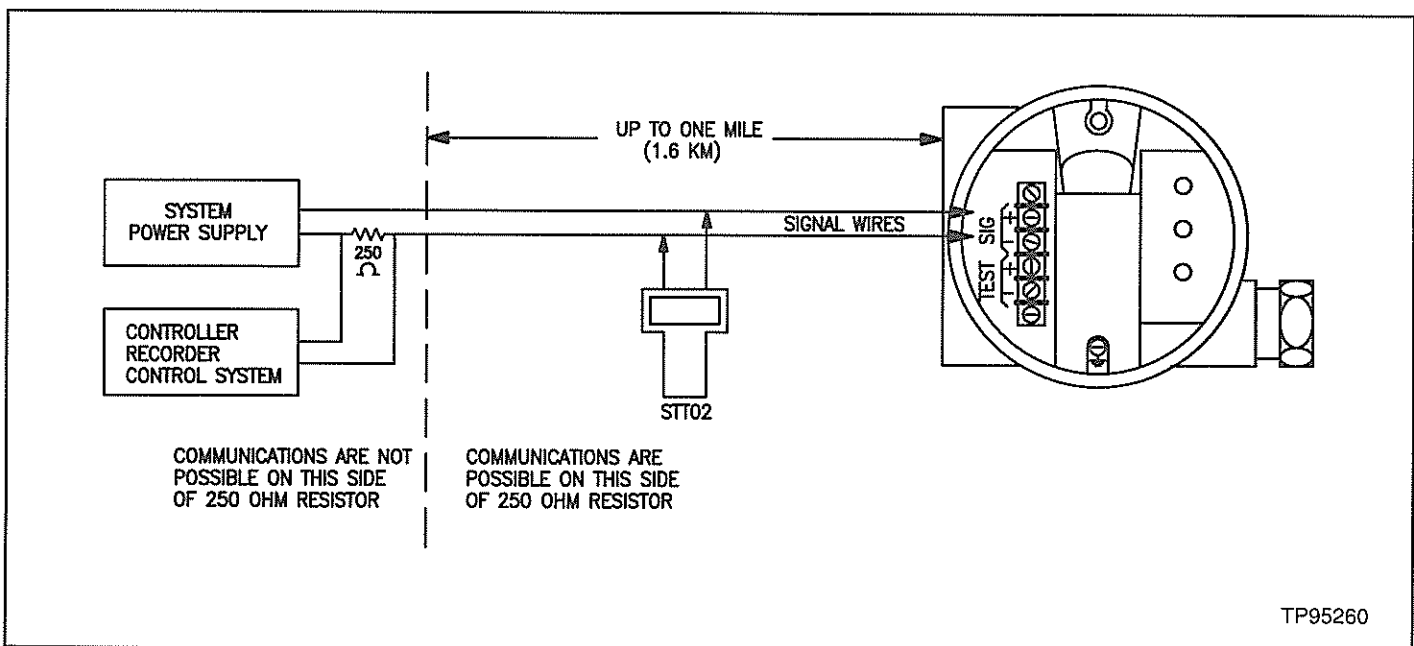

FIGURE 7 – Point-to-Point Wiring
**COMMUNICATION.** Communication between the BCN Transmitter and the remote terminal is accomplished by attaching the STT02 anywhere along the signal wires. No adapters, jacks or plugs are necessary. An ac voltage imposed on the signal wires allows communication between the BCN Transmitter and the STT02 Terminal. Since the communication signal is high frequency ac, its dc average is zero and has no effect on the output of the transmitter. Two different frequency levels are used to transmitter, a logic 0 or logic 1. This enables the location of the BCN Transmitter to be as far as one mile (1.6 Km) from the STT02 Terminal, while still providing excellent noise immunity for remote communications (Figure 7). A minimum of 250 ohms loop resistance is necessary to support communication capabilities (Figure 2).